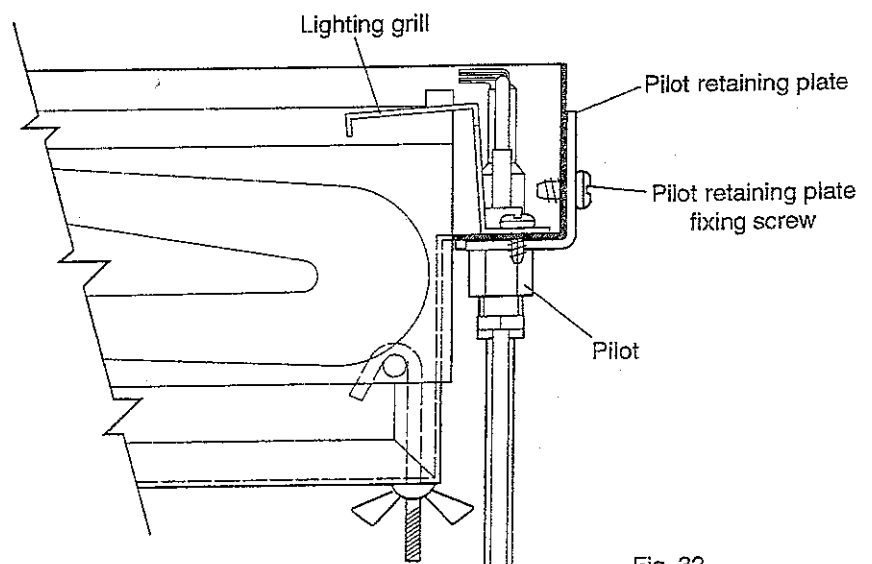

Fig. 32
- d) Remove the pilot inspection cover 2 screws (fig. 32)
- e) Remove the pilot retaining plate, 1 screw (fig. 32).